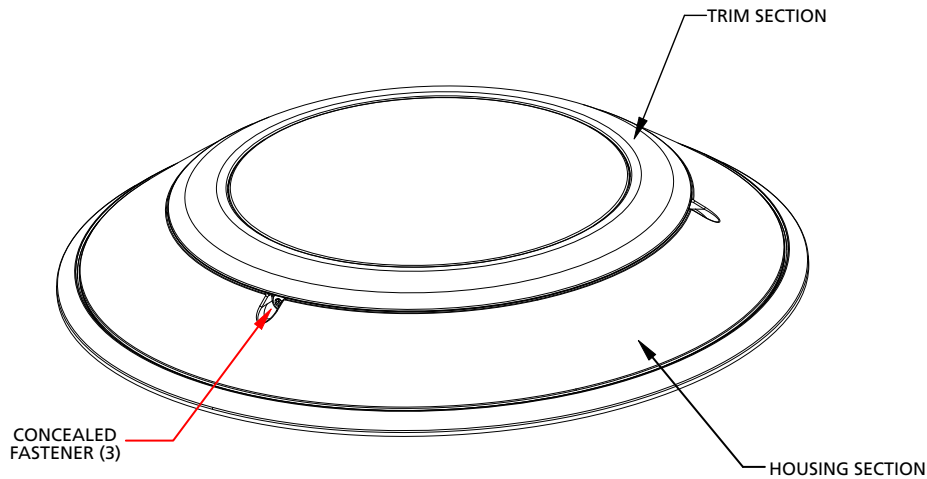

Figure 2
4. Using a T20 Torx® tamper-resistant bit, loosen concealed fasteners (3) securing the trim section to housing section and lift off trim section. Place trim section in a location where it will be safe from accidental damage and debris. See Figure 2.